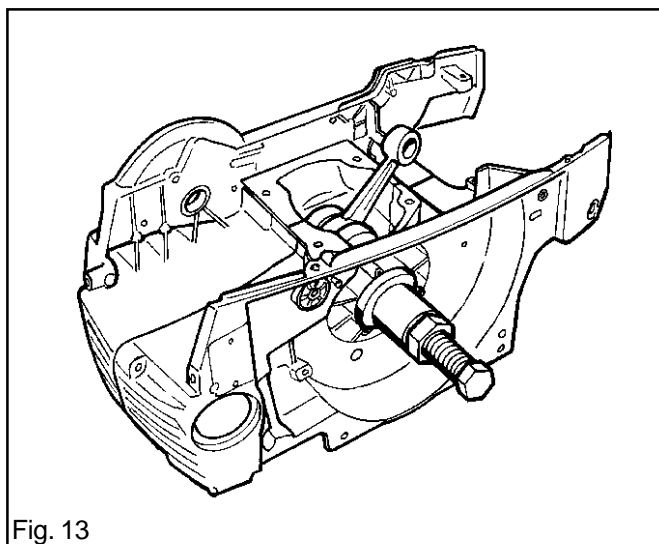

Fig. 13
5. Use tool 502 50 30-17 and pull on the flywheel side's crankcase half. Pull until the gasket is clamped between the crankcase halves. See fig. 13.